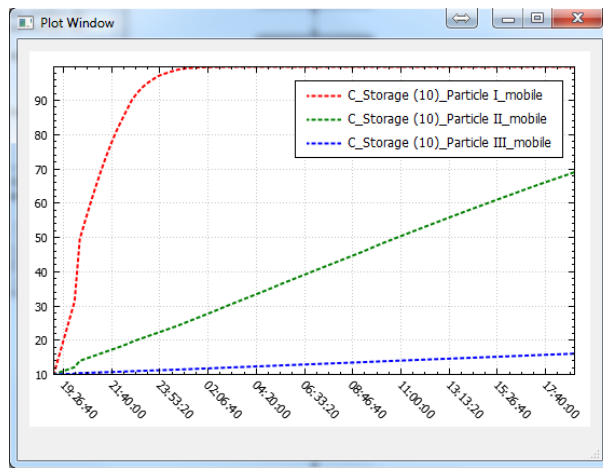

Figure 4.6: Particle initial concentration
8. **Checking the results:** Right click on the **Storage (10)** block and choose **Plot Water Quality Results→Particle I→Mobile** to see the temporal variation of **Particle I** particle class at the bottom of the column. Do the same thing for **Particle II** and **Particle III** particle groups. You can copy and paste all curves into one window to compare the results for each particle class (Figure 4.6).